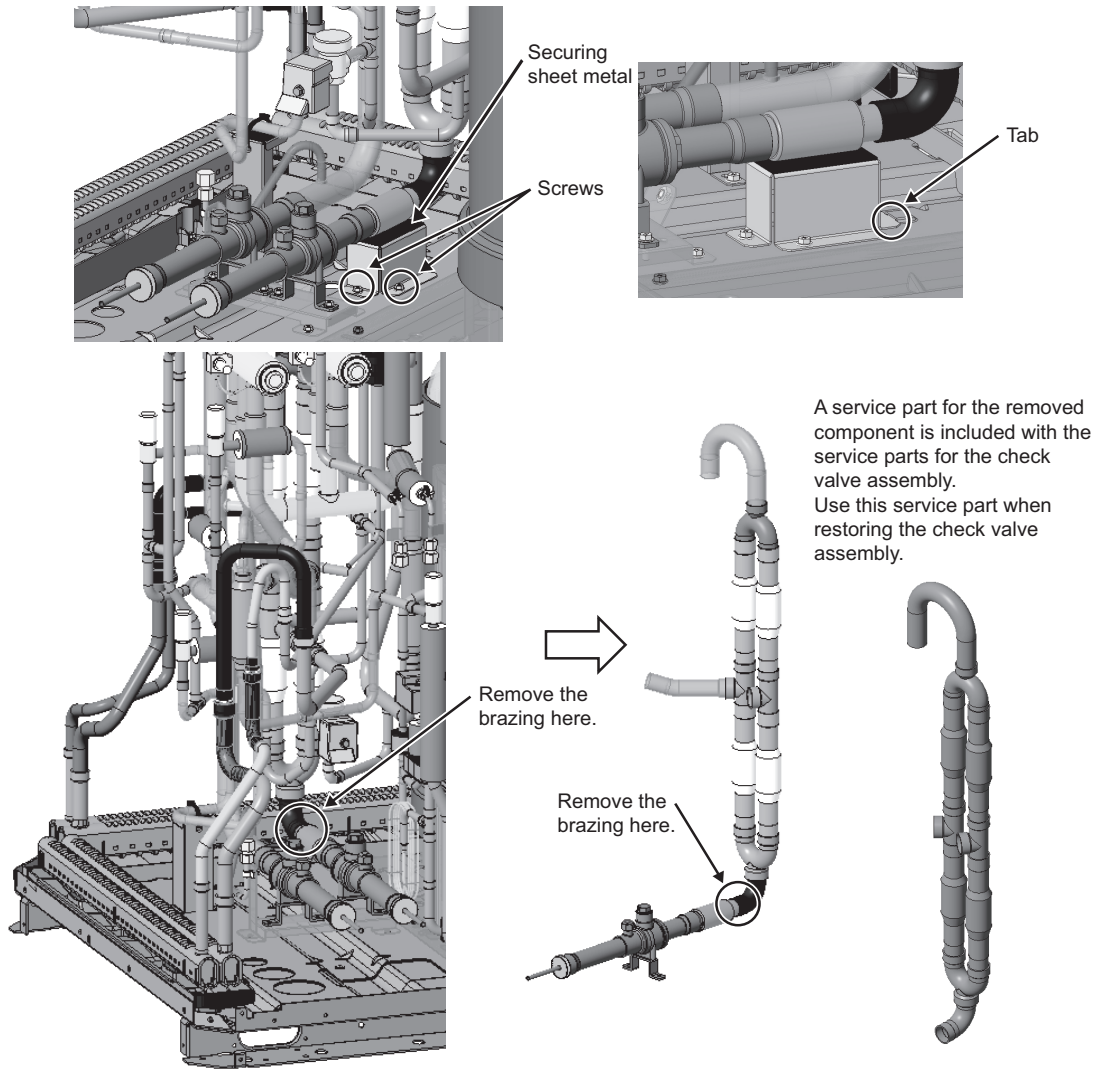

Fig. 5
- (5) Remove the screws from the securing metal sheet, pull the tab toward you, and then remove the metal sheet. After removing the metal sheet, remove the brazing from the lower pipe of the check valve assembly, and then lift the assembly to remove it. (Two screws and one area to remove brazing: Fig. 5)